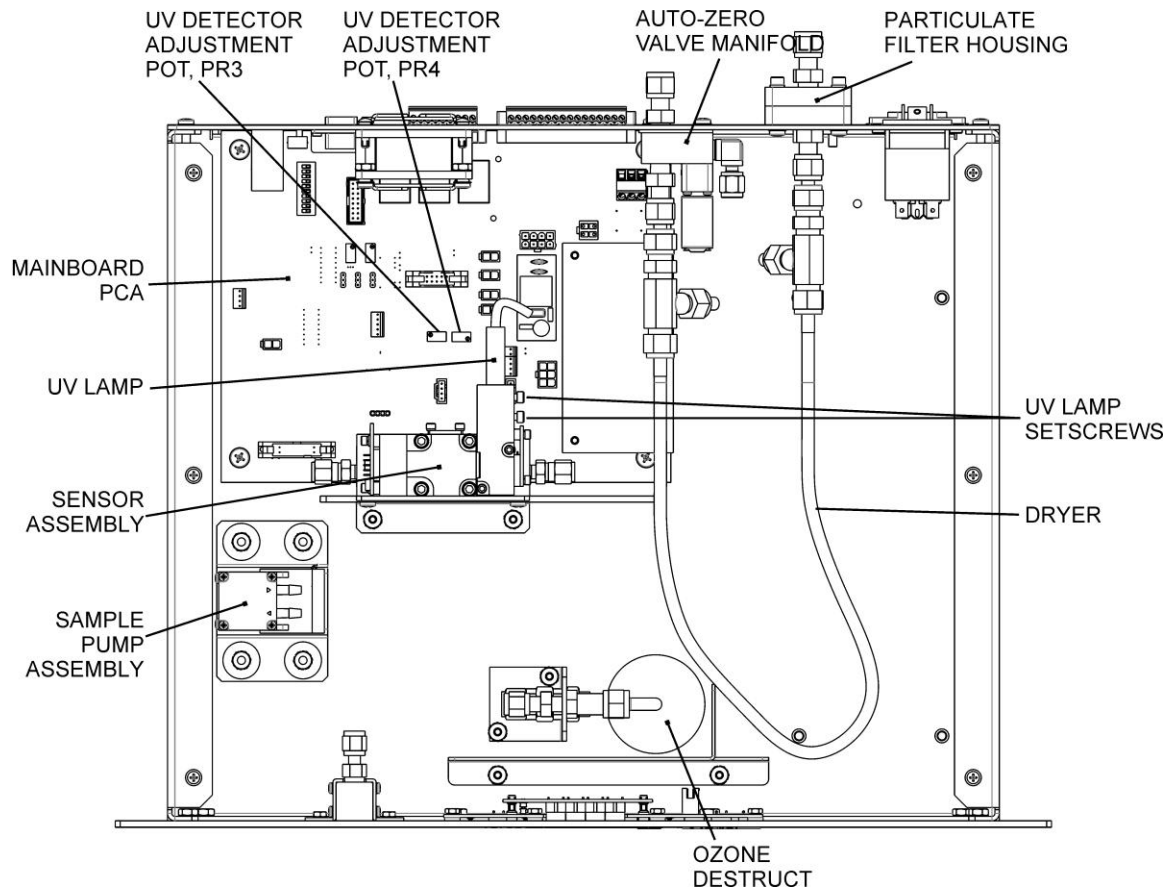
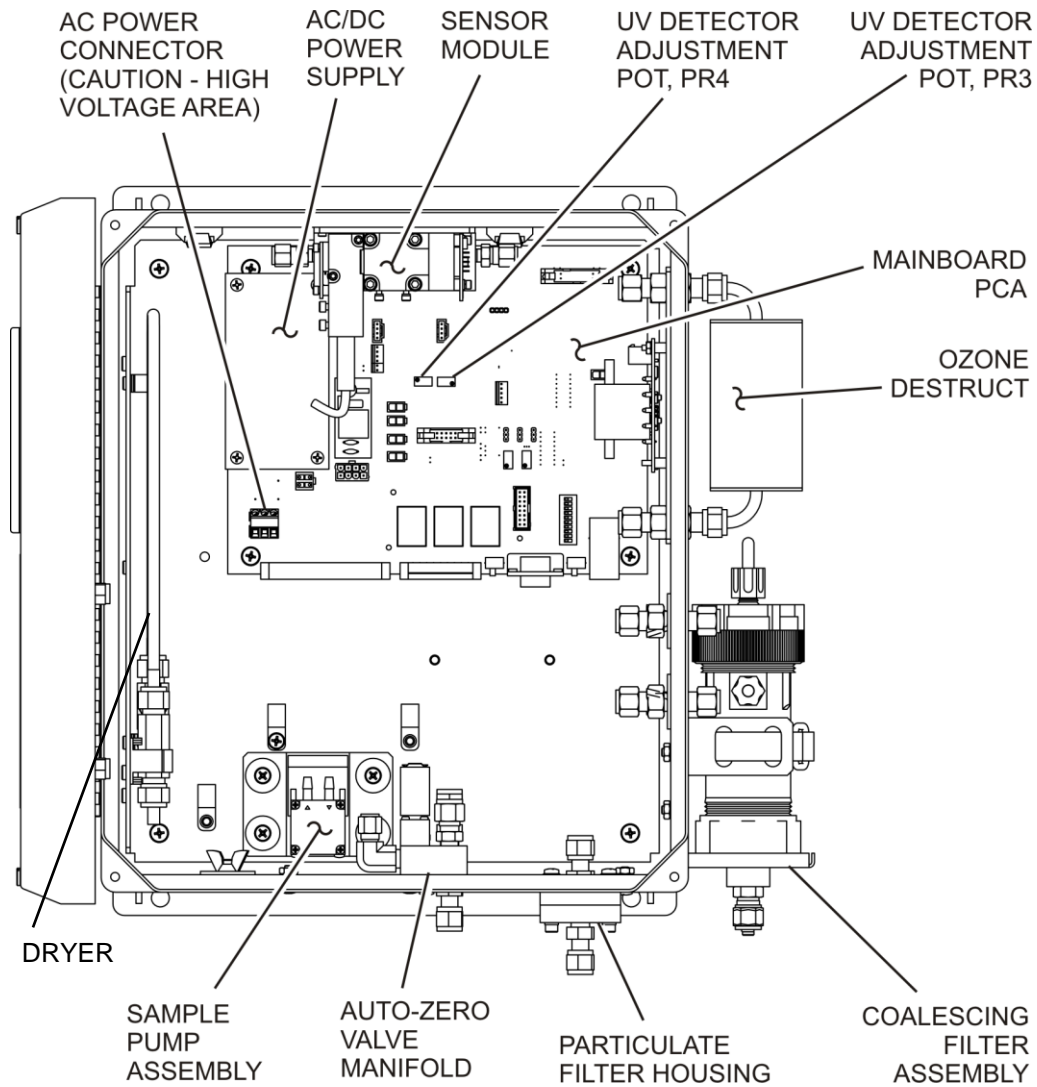

Figure 9-1: Instrument Layout, Rack Mount Configuration
Figure 9-2: Instrument Layout, NEMA Configuration
Figure 9-1 and Figure 9-2 show the internal layout of the 465M (rack mount and NEMA, respectively). These figures will be referenced in the procedures that follow.
2. Loosen the six screws from the top cover (Rack Mount Configuration, see Figure 9-1) or open front panel (NEMA Configuration, see Figure 9-2.)
4. Locate the particulate housing filter on the rear panel (Rack Mount Configuration, see Figure 9-1) or the bottom panel (NEMA Configuration, see Figure 9-2.)
3. Locate the Reference UV Detector adjustment pot, PR3, on the Mainboard PCA (see Figure 9-1 or Figure 9-2.)
6. Locate the Measure UV Detector adjustment pot, PR4, on the mainboard PCA (see Figure 9-1 or Figure 9-2.)
9. If the required adjustment cannot be achieved by adjusting the UV Detector pot alone, then additional adjustment can be made by loosening the two UV lamp setscrews on the UV lamp housing (see Figure 9-1 or Figure 9-2) and rotating the lamp. Rotate the lamp very slowly while observing the REF or MEAS value on the display. Make sure the lamp does not pull out and remains seated in the housing while it is being rotated. Re-tighten the two setscrews when a desired point has been reached.
3. Loosen the two UV lamp setscrews on the UV lamp housing (see Figure 9-1 or Figure 9-2.)
3. Locate sample pump assembly (See Figure 9-1 or Figure 9-2.)
3. Locate the auto-zero valve (See Figure 9-1 or Figure 9-2.)
7. Remove the two (2) mounting screws using a #2 Phillips screwdriver. Note that there are four screw heads visible on the top of the valve body, only two (2) of
3. Locate the Mainboard PCA (see Figure 9-1 or Figure 9-2.)